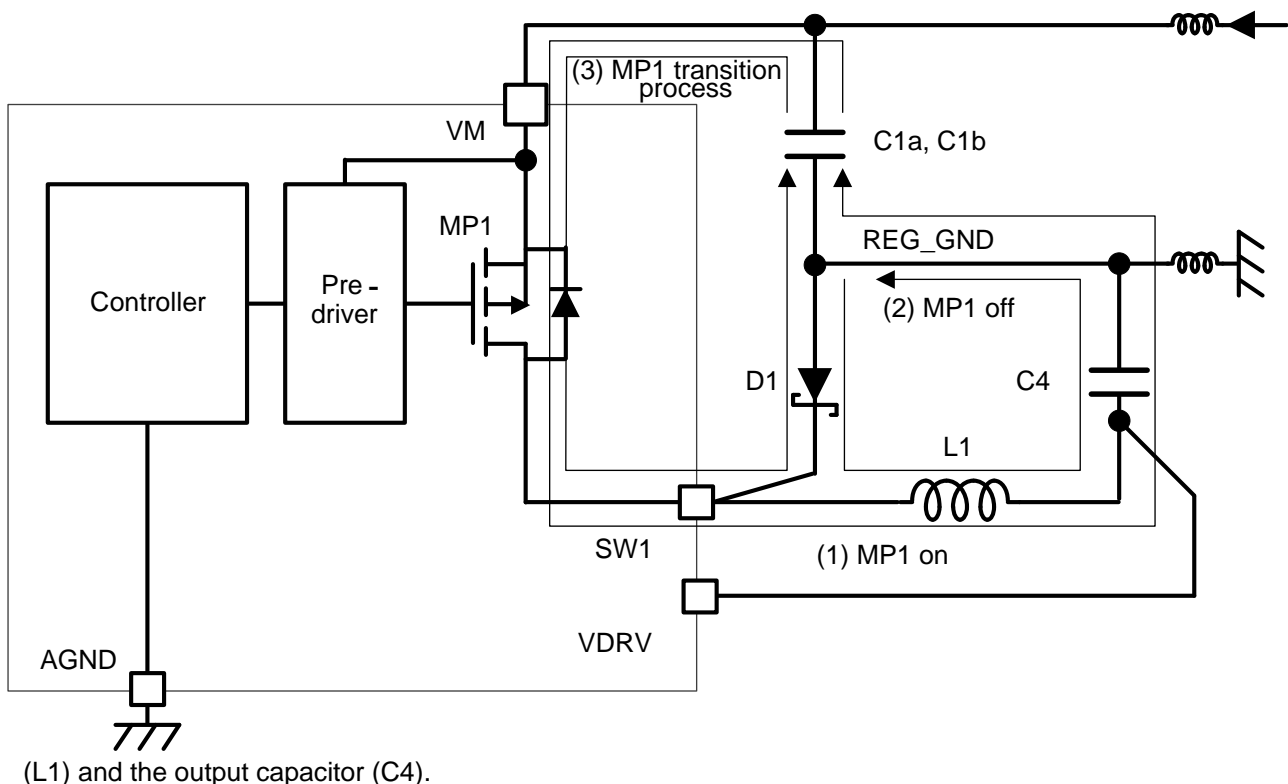

Figure 4-8 Current Path of the Buck Switching Regulator
The most important aspect of the board layout for the buck switching regulator is the minimization of noise generated by the switching regulator. As shown in **Figure 4-8**, the buck switching regulator changes the switching current flow path according to the (1) the switching element (MP1) on, (2) MP1 off, and (3) MP1 transition process from off to on, and the steep current change at the switch timing of MP1 generates noise. To minimize this noise, it is required to minimize the area of the current loop in (3) shown in **Figure 4-8**. The followings are some points to be considered for minimizing the area of the current loop in (3). It is very important to connect the wiring between the external components of the buck switching regulator in a single layer without vias to minimize noise.